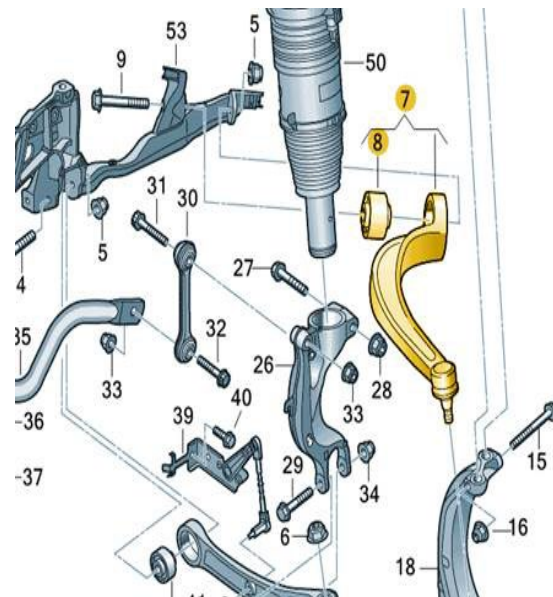

Figure 1. Hydro-bush.
The noises can be generated on the lower-left guide in the area of the hydro-bushing. (Figure 1, Positions 7 and 8).
1. Replace the hydro-bushing on the guide link in pairs (Figure 1, Position 8) according to the instructions in the ELSA Repair Manual at *Chassis >> Suspension >> Wheels, Steering >> 40 Front Axles >> Lower Control Arm and Ball Joint >> Guide link bonder rubber bushing, Removing and Installing.*
2. If repeat repairs are necessary and the hydro-bushing has already been replaced (pressed out/in), the complete guide link must be replaced (Figure 1, Position 7). Refer to the instructions in the ELSA Repair Manual at *Chassis >> Suspension >> Wheels, Steering >> 40 Front Axles >> Lower Control Arm and Ball Joint >> Guide link, Removing and Installing.*